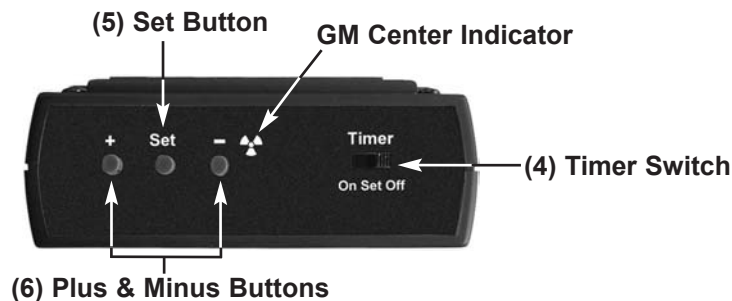

Figure 2 End Panel View
Timer Switch (Figure 2 (4))
Set Button (Figure 2 (5))
+ and - Buttons (Figure 2 (6))